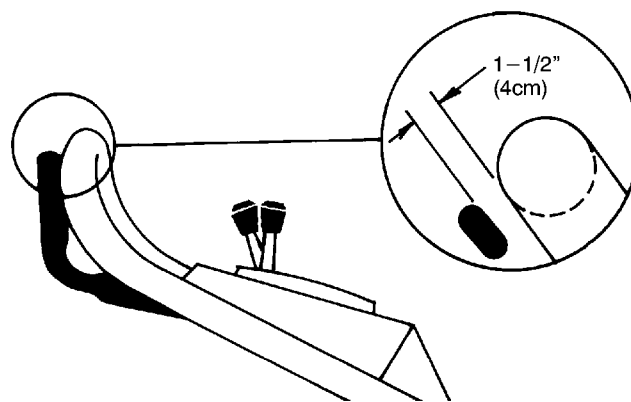

Figure 20
- Lift control bar until some resistance is felt. Control bar should be 1-1/2" from handle when properly adjusted (Fig. 20).